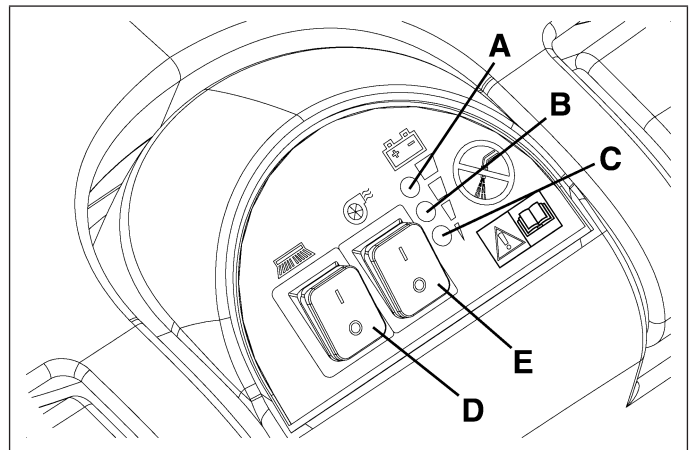

Figure 17
*The overload is shown by the three warning lights (A, B, C, Fig. 17) flashing simultaneously.*
4. Until the green indicator light (A, Fig. 17) stays on, the batteries allow the machine to operate normally. When the green indicator light (A) turns off and the yellow (B) and red (C) warning indicator lights turn on in sequence, it is necessary to charge the batteries.
1. Turn the brush/pad rotation switch and the water vacuuming switch (D and E, Fig. 17) to the "0" position.